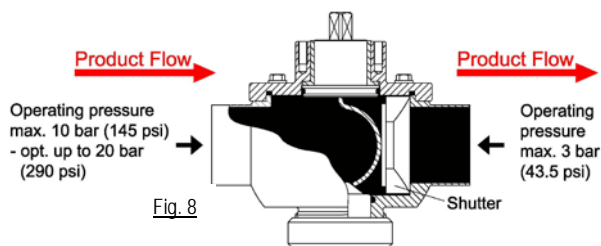

Fig. 8
- Recommended installation (see Figure 8)